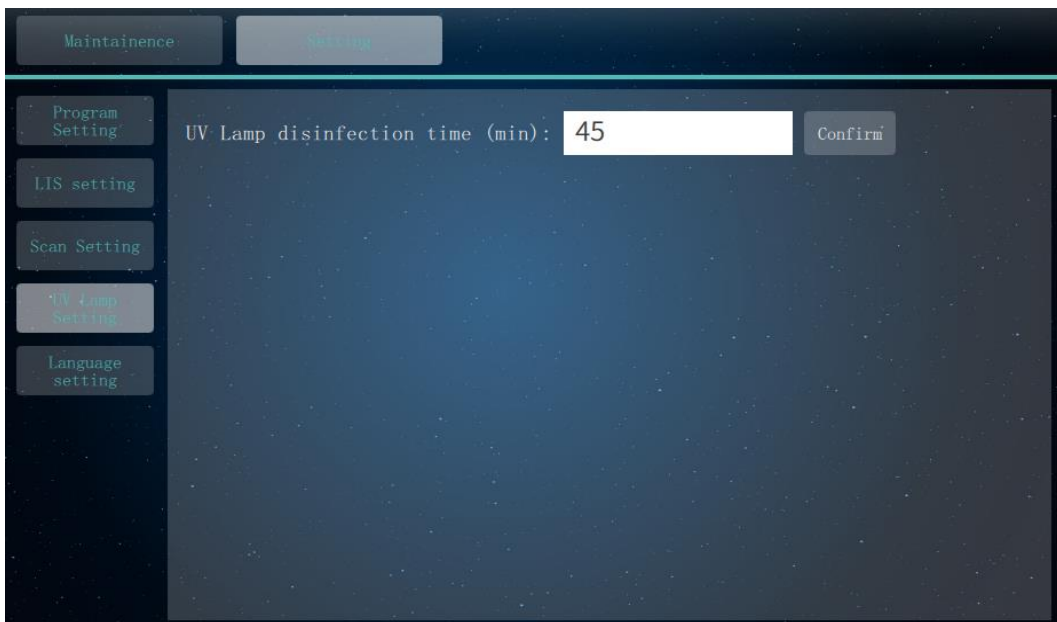

Figure 5-14d. Setting Subtab – UV Lamp Setting
- ▶ **< UV Lamp Setting >**: User can click this function key to set the UV lamp disinfection time, as shown in figure 5-14d. User can enter the UV lamp disinfection time and click **< Confirm >** to confirm the setting.